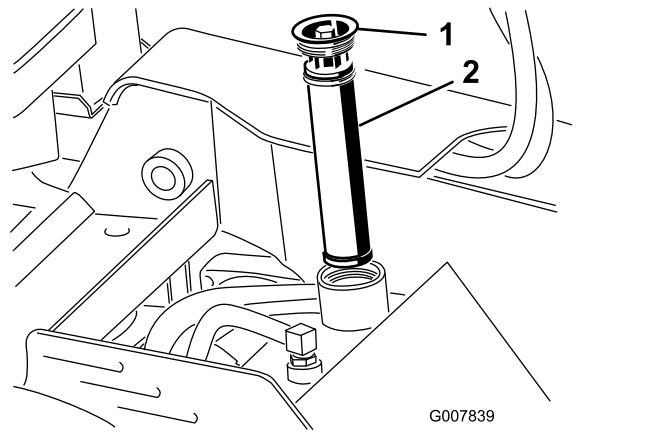

Figure 57
5. Clean the area around the filler neck of the hydraulic tank and remove the cap and filter from the filler neck using a socket (Figure 57).